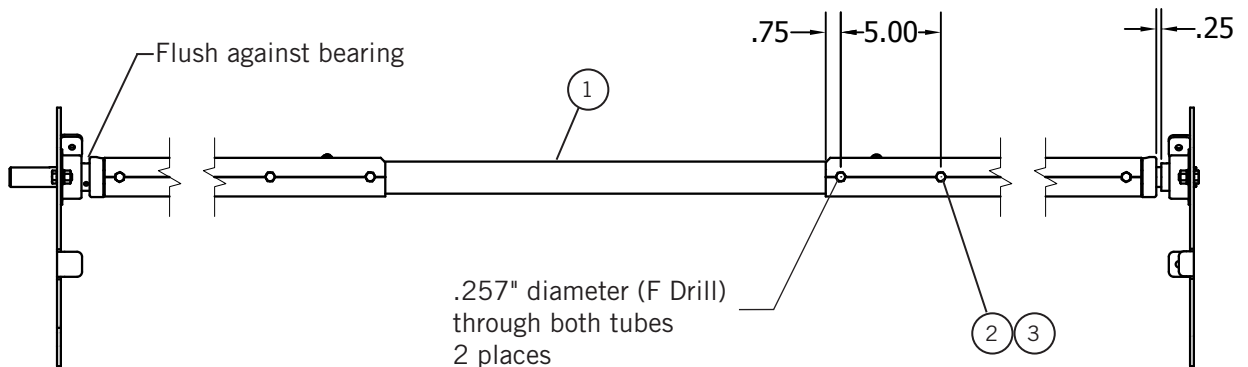

Figure 11-1
- 4) **Figure 11-1.** With passenger's end of roll up bar within 1/4" - 1/2" of bearing, drill two .257" (F drill) holes through both tubes as shown.